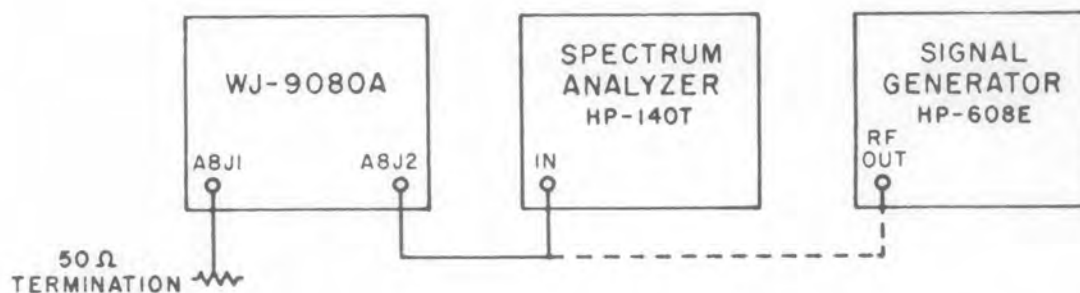

Figure 4-7. Equipment Setup, CMO Alignment
- (1) Interconnect the equipment as shown in Figure 4-7.